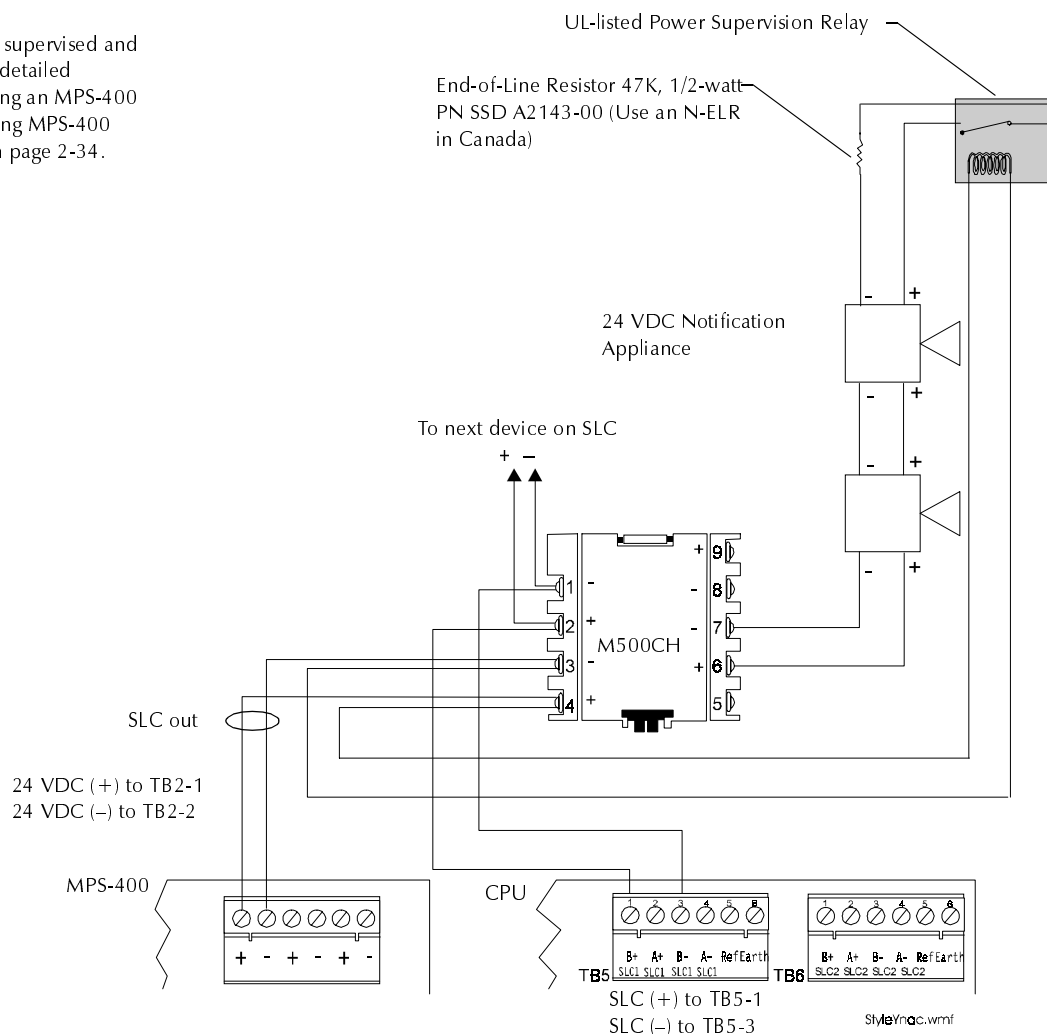

Figure 2-74 Typical Wiring for an NFPA Style Y NAC
Figure 2-74 shows a supervised and power-limited NFPA Style Y NAC using an M500CH module. This shows polarized alarm notification appliances connected to M500CH modules in a two-wire configuration. An M500CH module can control 2 A of resistive load (on electronic devices) or 1 A of inductive load (on mechanical bells and horns). If installing more than one M500CH NAC, install the power supervision relay on the 24 VDC power bus after the last M500CH.
2. Connect 24 VDC power to MPS-400 TB2 (Figure 2-74).